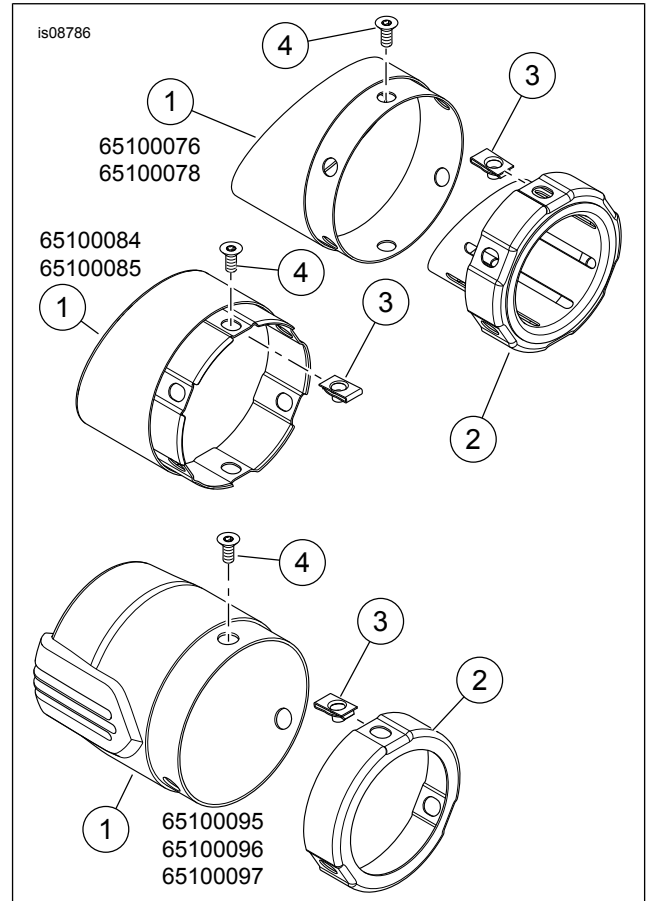

Figure 1. Service Parts, Muffler Endcap Kits
See Figure 1 and Table 1.
1. See Figure 1. Slide the three U-nuts (3) onto the bosses of the endcap retaining ring (2).
2. Align the three U-nuts with the corresponding holes in the endcap (1). Insert the endcap retaining ring into the inside of the endcap.